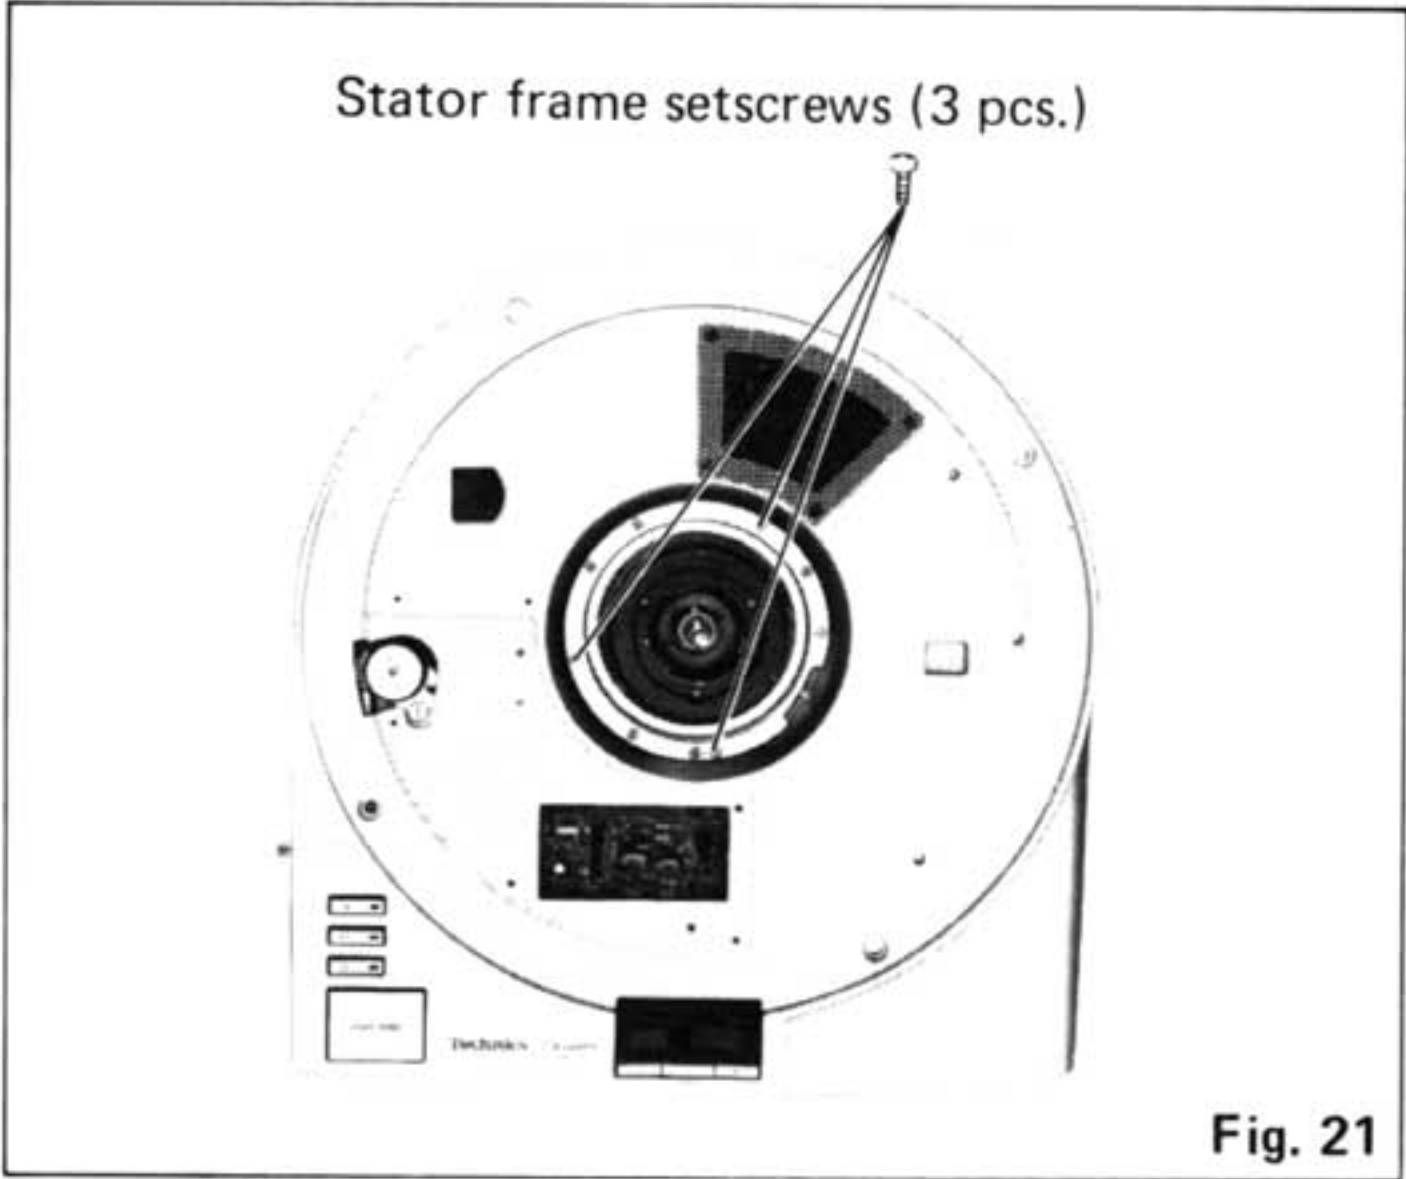

Fig. 21
- 2. Turn the main body up and remove 3 setscrews of the stator frame. (See Fig.21.)